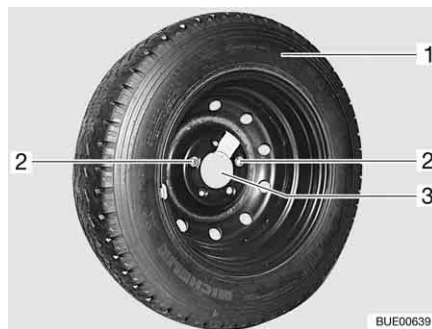

Fig. 258 Spare wheel support in the rear garage
- Loosen and remove both fixing screws (Fig. 258,2) with the on-board tool set.
- Remove the spare wheel (Fig. 258,1) from the support (Fig. 258,3).